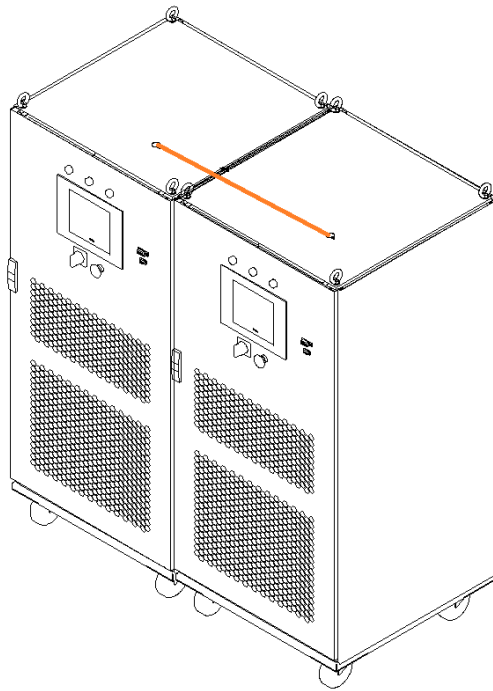

Figure 1-24 Cable holes on the top of the cabinet
Step 1: Insert optical fiber cables through the cable holes on the top of the cabinet, as shown in Figure 1-24.